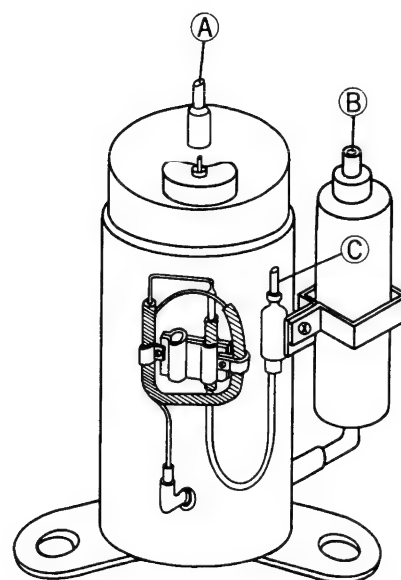

Fig. 18
- ③ For the new service compressor, tubes are attached at the three points (A), (B) and (C) to prevent entry of dirt and moisture. At the time of exchange, connect the unit tubing after removing these tubes. Fig. 18